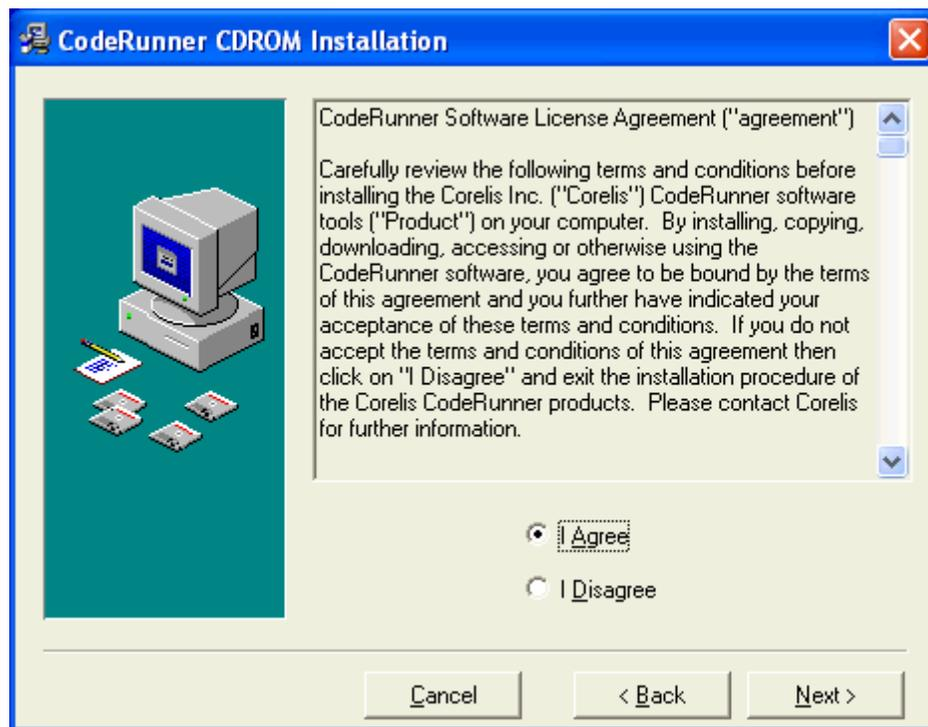

Figure 2-3. License Agreement Screen
Figure 2-3. License Agreement Screen.....	2-4
5. The **License Agreement** screen shown in Figure 2-3 will appear. Review the agreement, and if you agree to it, select the **I Agree** radio button. Click on the **Next** button to proceed to the processor selection screen.